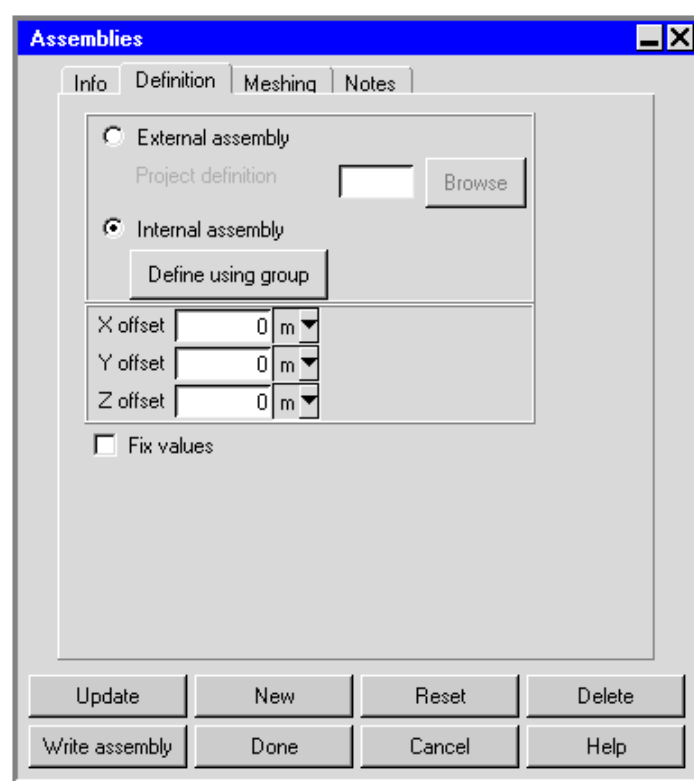

Figure 7.8.2: The Assemblies Panel (Definition Tab)
1. Click on the  button in the **Object modification** toolbar or right-click on the assembly item in the **Model manager** window and select **Edit object** in the pull-down menu. This will open the **Assemblies** panel (Figures 7.8.2 and 7.8.3).
4. In the **Definition** tab, select the assembly to be added to the model (Figure 7.8.2). There are two options:
To save an assembly to be used in another model, click **Write assembly** in the Assemblies panel (Figure 7.8.2). This will open the Save project panel. See Section 3.4 for information on the Save project panel. You can save the project containing the assembly to any directory, but it is recommended that you create a local assemblies directory where you can save all the assemblies you create.
To delete an assembly, select the assembly and click on the  button in the Object modification toolbar, select **Delete** in the **Edit**→**Current object** menu, or click **Delete** in the **Assemblies** panel (Figure 7.8.2). The selected assembly will be removed from the model and from the **Model manager** window.